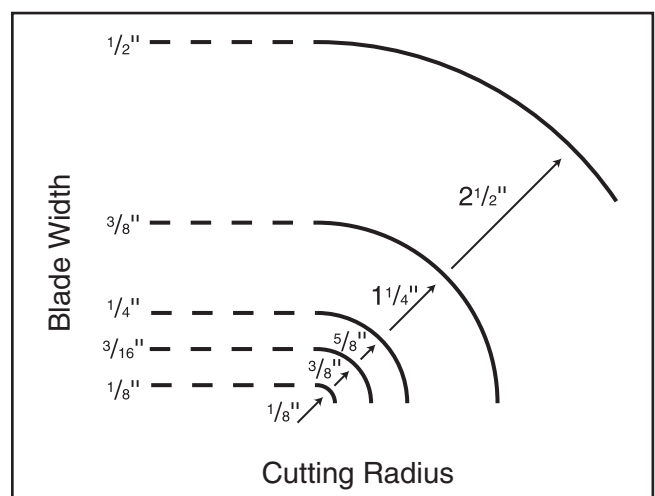

Figure 47. Blade width radii.
- **Curve Cutting:** Use the chart in **Figure 47** to determine the correct blade for curve cutting. Determine the smallest radius curve that will be cut on your workpiece and use the corresponding blade width.